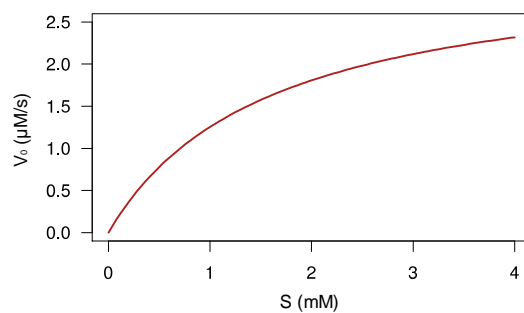

Figure 1.6: Theoretical Michaelis-Menten plot for the kinetics experiment in the absence of inhibitor
Shown below (Figure 1.6) is a theoretical Michaelis Menten plot ( $V_0$  versus  $[S]$ ) resembling the reaction mixtures S1–S5 in Table 1.3.
**Estimate  $V_{\max}$  and  $K_m$  graphically from the Michaelis-Menten plot (Fig. 1.6). Give answers with one digit after the decimal point.**